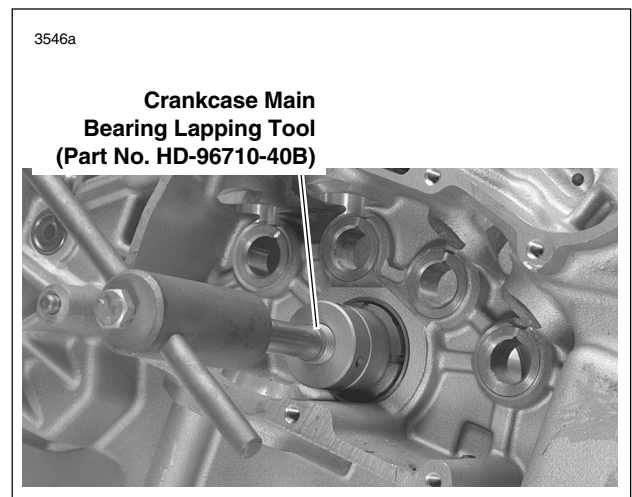

Figure 3-132. Lapping Pinion Shaft Main Bearing
2. See Figure 3-132. Obtain CRANKCASE MAIN BEARING LAPPING TOOL (Part No. HD-96710-40B). Assemble CRANKCASE MAIN BEARING LAP (Part No. HD-96718-87) to lapping handle. Assemble guide sleeve to sprocket shaft bearing bushing. Sleeves, for use with tapered bearing, are assembled to case with bearings and small spacer collar. Finger-tighten the sleeve parts.